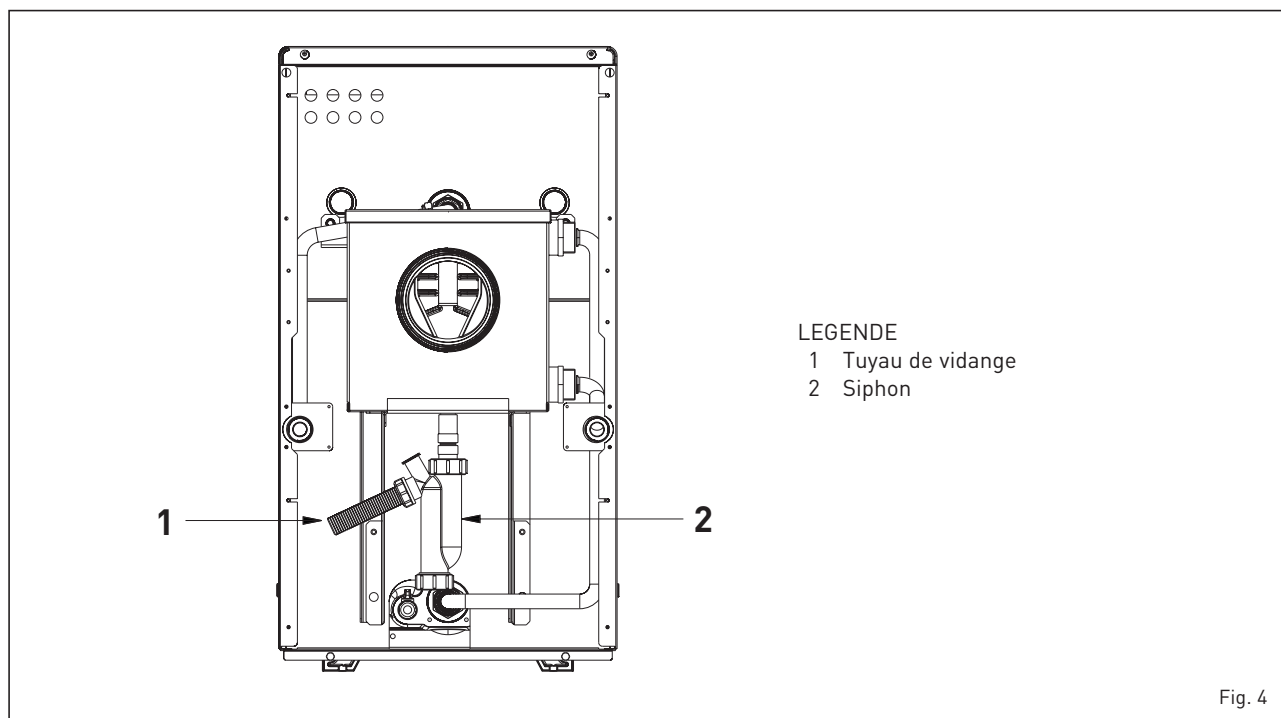

Fig. 4
1.8 BRANCHEMENT ÉVACUATION CONDENSATION (fig. 4)